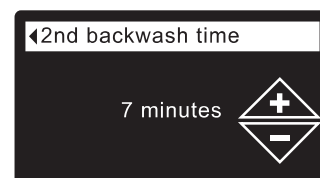

FIG. 133
- 8c. **Second backwash time:** Press the UP (▲) or DOWN (▼) buttons to change the second backwash time. Hold the button down to rapidly advance. The time can be set from 0 to 30 minutes (See Figure 133).